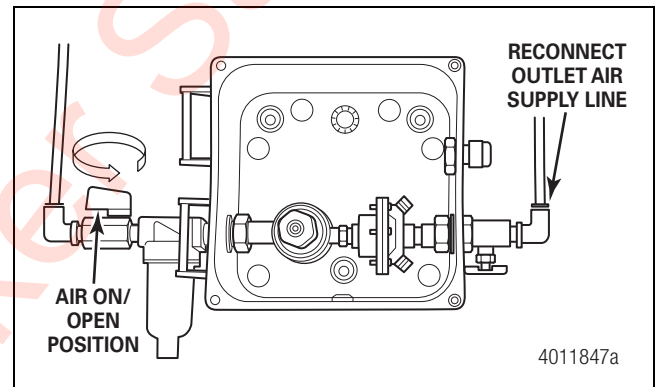

Figure 3.23
- D. Reconnect the outlet air supply line. Figure 3.23.